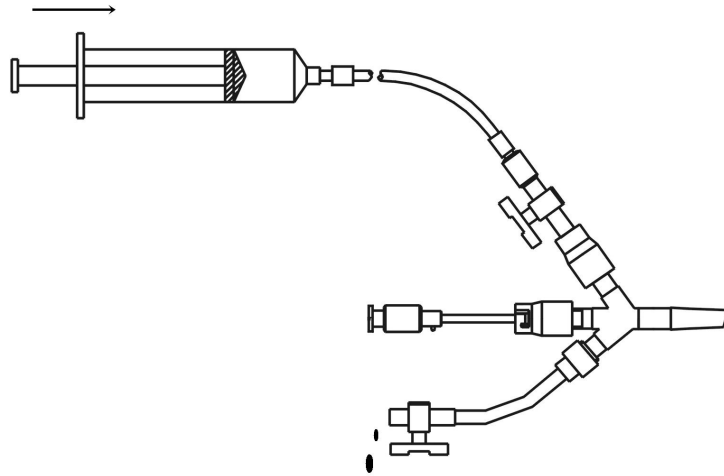

Fig. 7 Venting the four-way stopcock balloon Catheter
- a) **Four-way stopcock type** Open the injecting port, keep the vent port close. Inject saline into the catheter slowly while the balloon is placed at a lower position. Suck the saline out while the balloon is Inflated. If necessary repeat this procedure until all air is removed. Open the vent port and inject saline till the saline flow out from the vent port. Close the injecting port and the vent port (see fig. 7).